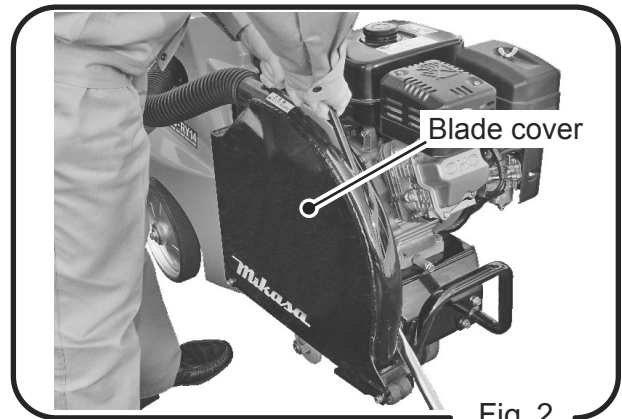
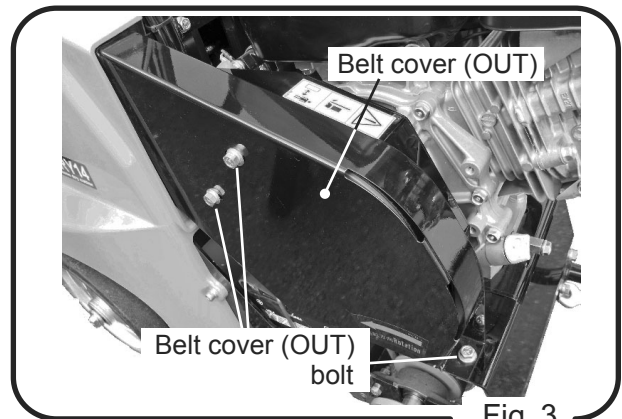

Fig. 2
Fig. 3
- A. Lift the blade cover and remove. (Fig. 2)
- B. Remove three bolts, and remove the belt cover (OUT) (Fig. 3)
- A. Remove the blade cover, and remove the three bolts to remove the belt cover (OUT). (Fig. 2, Fig. 3)